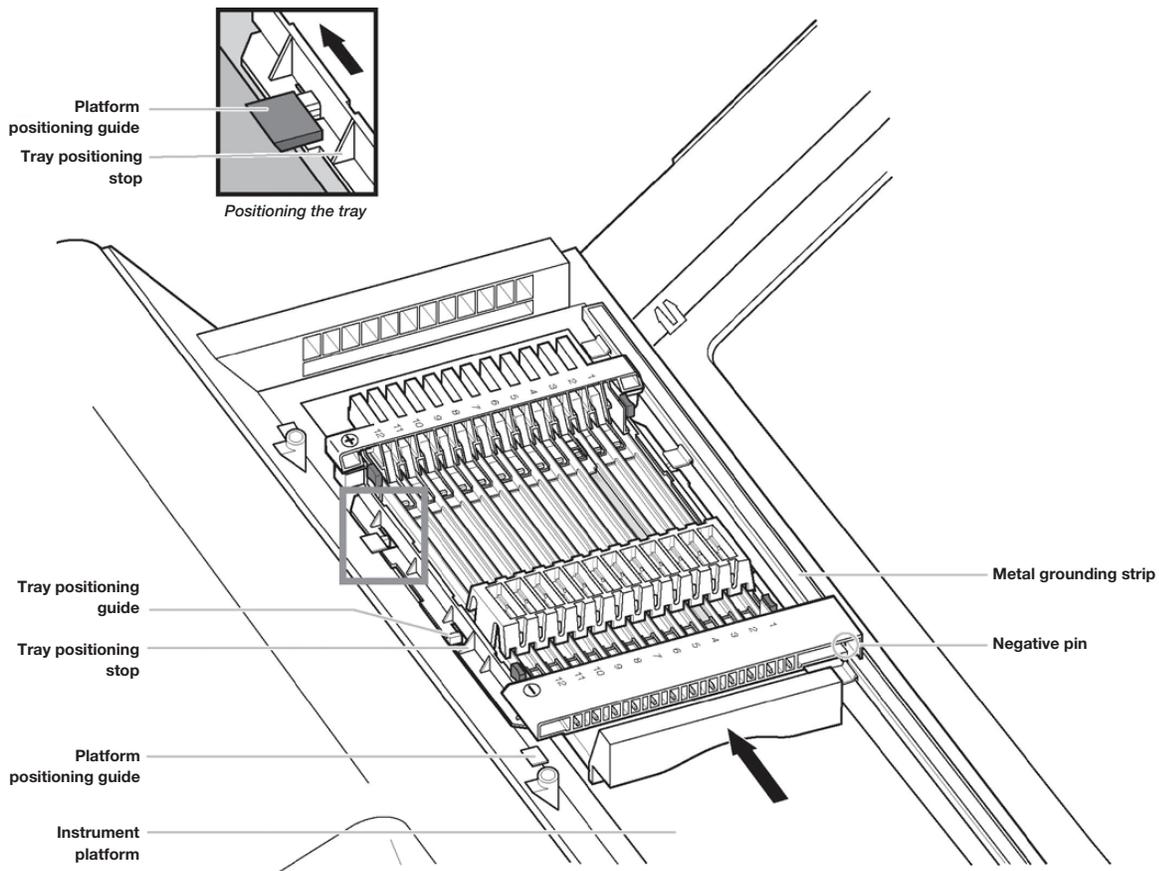

Fig. 2.2. Connecting the electrodes.
1. Position the assembly on the Peltier platform. Use the positioning guides and stops on the platform and focusing tray as guides (Figure 2.2, see inset).
2. Slide the assembly toward the positive (+) end until the positive (+) electrode assembly is completely inserted. When the the tray positioning stop reaches the positioning guide on the platform, the assembly is seated correctly (Figure 2.2).
3. Make sure the negative pin on the negative (-) electrode is in direct contact with the metal grounding strip on the instrument (Figure 2.2).